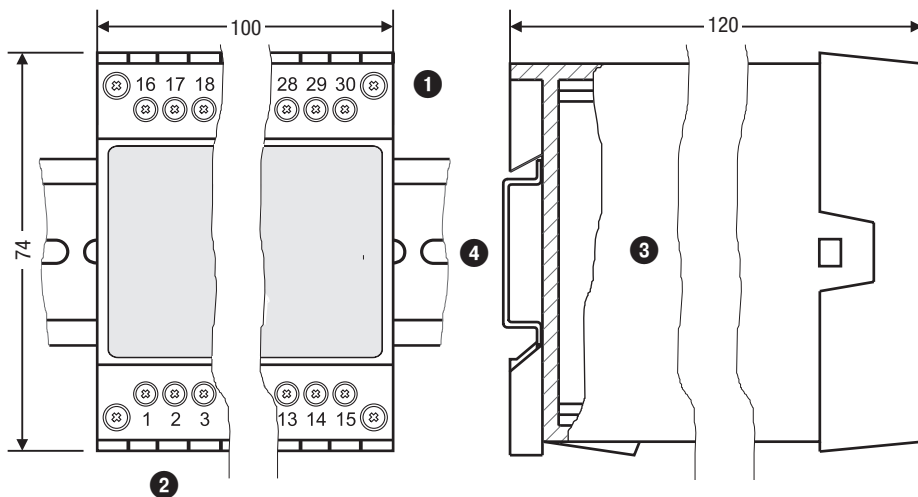

Fig. 1
The conductivity controller LRR 1-52, LRR 1-53 is clipped onto the support rail type TH 35, EN 60715 in the control cabinet. Fig. 1 ④